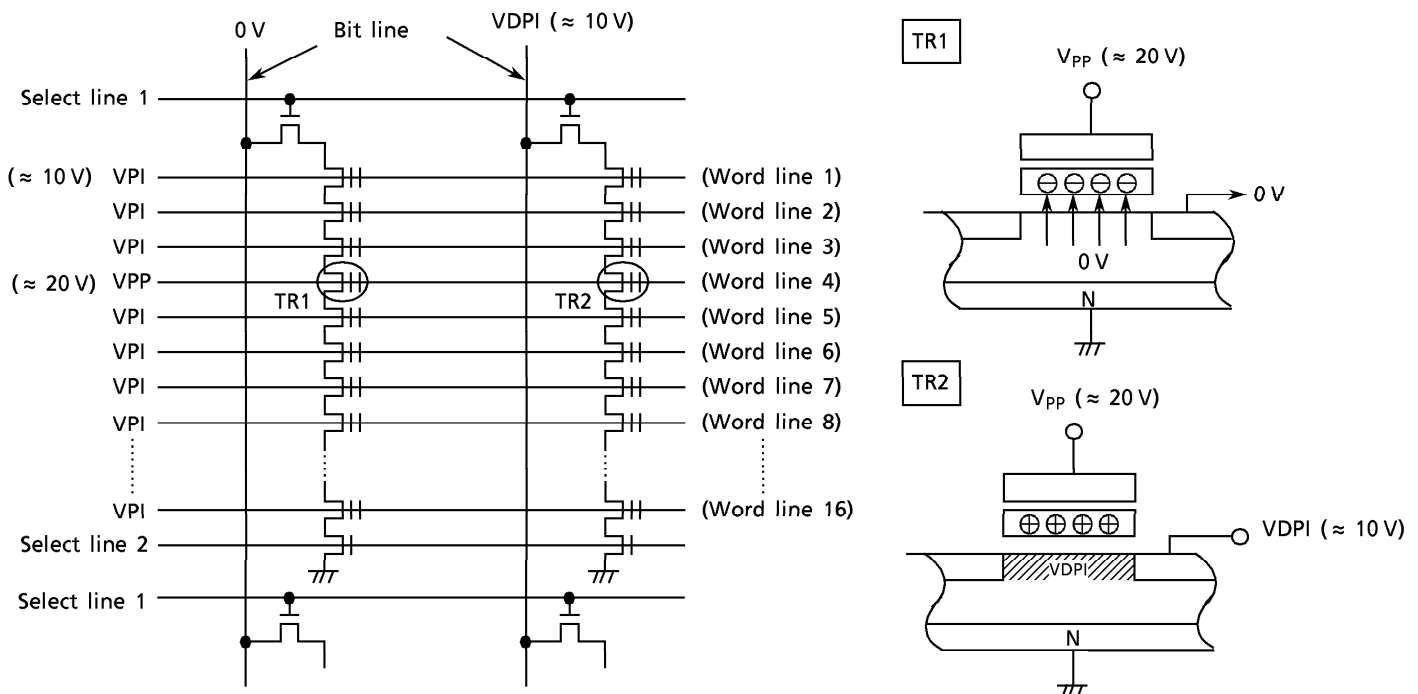

Figure 16. Program Device Physics
Figure 16 shows the NAND memory cell level details of the programming mechanism. The Program operation is used to write “0” data into an erased memory cell (“1” data cell) using a tunneling mechanism. An example Program operation to program “0” data into TR1 and “1” data into TR2 is as follows:
- (1) A high level is applied to Select line 1 and a low level is applied to Select line 2 so that the device is connected to the Bit line and disconnected from the ground line.
- (2) V_{pp} ($\approx 20\text{ V}$) is applied to the selected word line and an inhibit voltage of V_{PI} ($\approx 10\text{ V}$) is applied to the unselected word lines.
- (3) 0 volts is applied to the bit line tied to cell transistor TR1 and the inhibit voltage V_{DPI} ($\approx 10\text{ V}$) is applied to the bit line tied to TR2.
- (4) V_{pp} is applied between the control gate and the channel in TR1, as shown in Figure 16, which causes electrons to be injected from the channel to the floating gate by a tunneling mechanism.
- (5) The injected electrons are captured in the floating gate surrounded by an oxide layer and will remain, even after power is cut off, until they are removed by an Erase operation.
- (6) Although 20 volts is applied to the control gate of TR2, the voltage difference between the control gate and the channel is only 10 V because the voltage of the channel is 10 V. Therefore, tunneling does not take place. (i.e. the electron is not injected into the floating gate.)
- (7) Tunneling does not take place in the unselected pages because of the 10 V (V_{PI}) applied to the unselected word lines which makes the voltage difference between the control gate and channel only 10 volts.